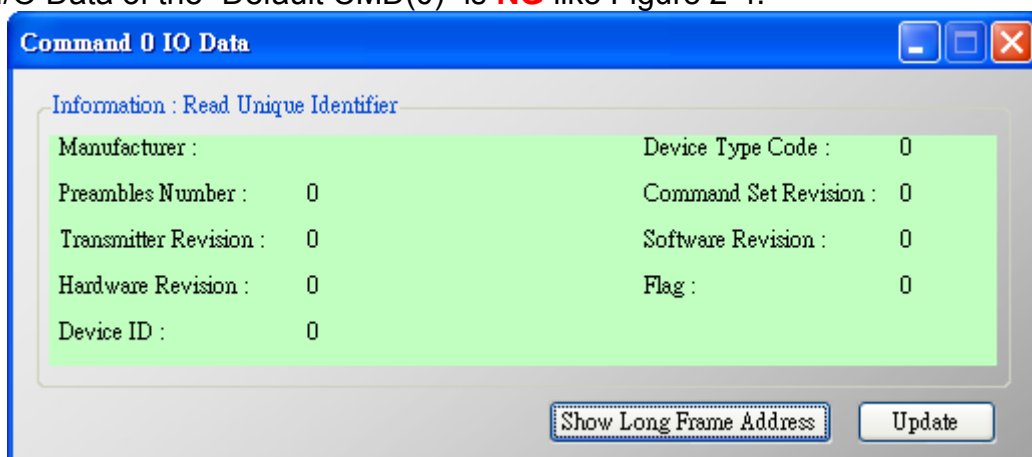

Figure 2-4 The I/O Data screen of the “Default CMD(0)” => NG
(4) The I/O Data of the “Default CMD(0)” is **NG** like Figure 2-4.